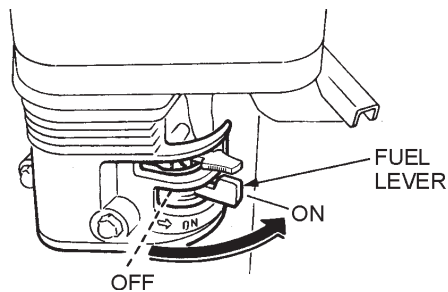

Figure 8. Engine Fuel Valve Lever
1. Place the engine **fuel valve lever** (Figure 8) to the "**ON**" position.